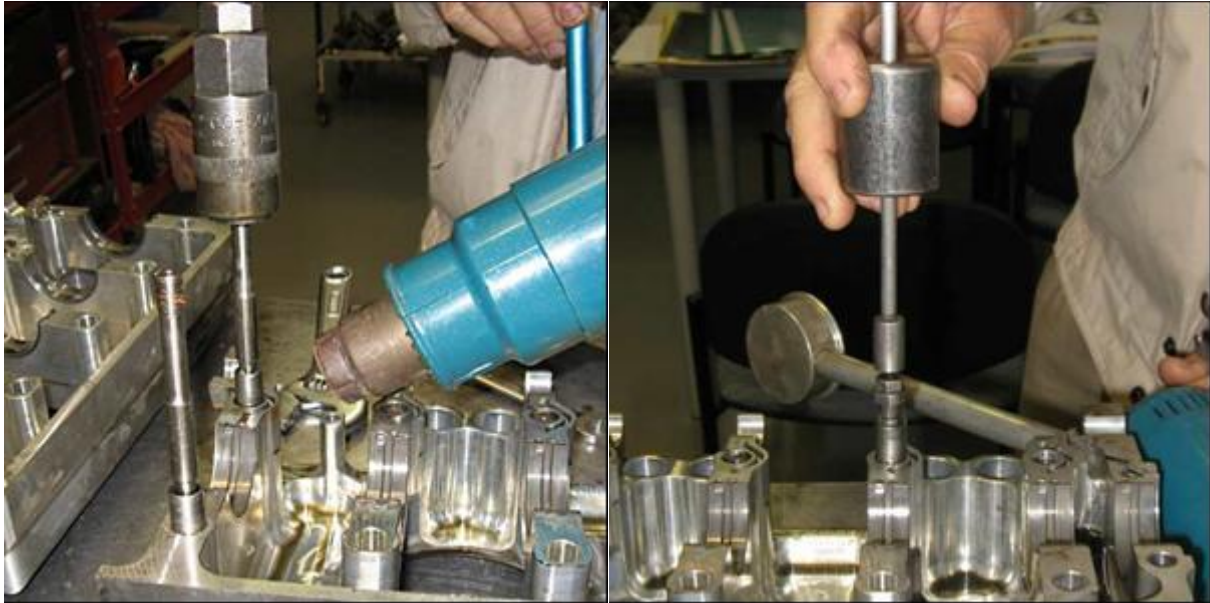

Figure 73 – Removing Studs and Dowels from Crankcase
- If the case is to be surfaced and line-bored then all dowels and studs must be removed from the crankcase. Use a collet type stud remover to unscrew the retained studs from the crankcase. Gentle application of heat will assist the removal as shown above. Extract the dowels from the lower stud holes – in Figure 73 an expanding puller is being used to pull the dowels out of the case. Clean the stud holes with an M10x1.5 tap (an old stud with grooves cut in the thread to act as a tap may also be used) and clean and dry the cases.